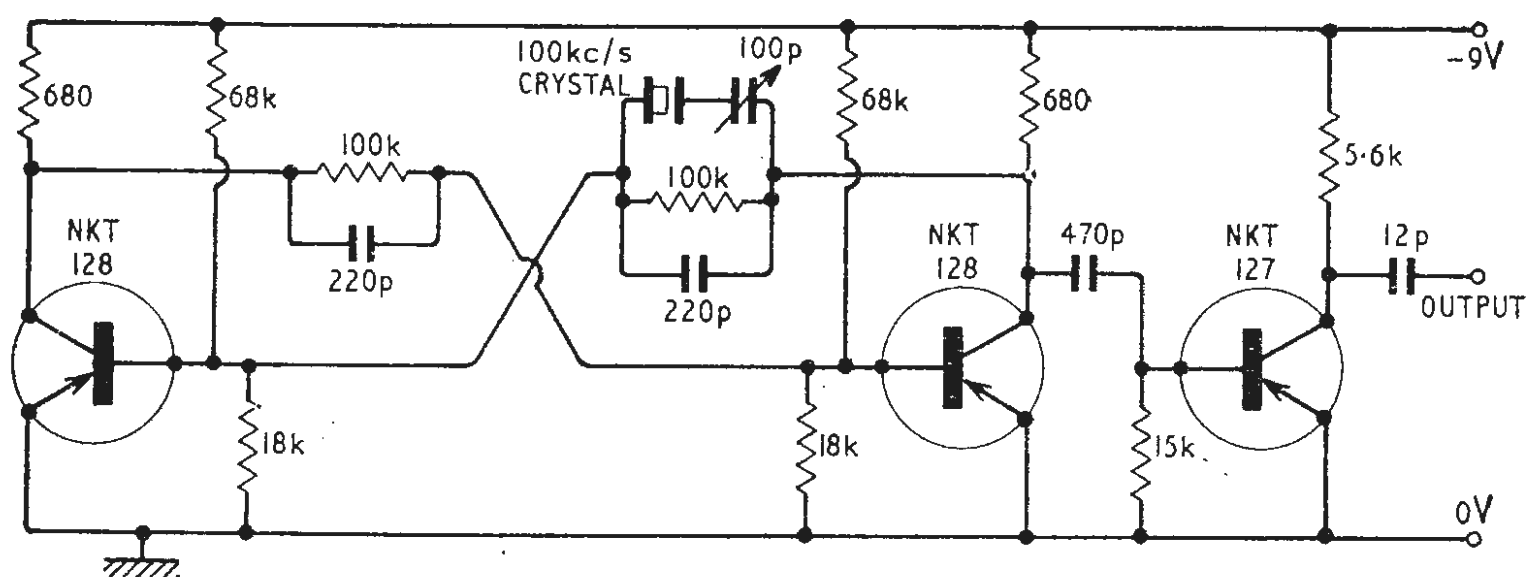

Fig. 70. Circuit for general-purpose 100 kc/s quartz crystal calibration standard oscillator.
*Signal Generator Standards.*—Active signal sources in the laboratory are the second main group of frequency calibration standards. For example, a good-quality stable signal generator, calibrated against standard-frequency transmissions, makes a very useful transfer standard usable when no suitable transmission is available. Another approach is to make up a quartz-crystal (or high-stability LC) oscillator specially for calibration purposes. In these days of the transistor, it will not be found very difficult to make up a simple basic oscillator of this type. Fig. 70 gives a typical circuit for a battery-